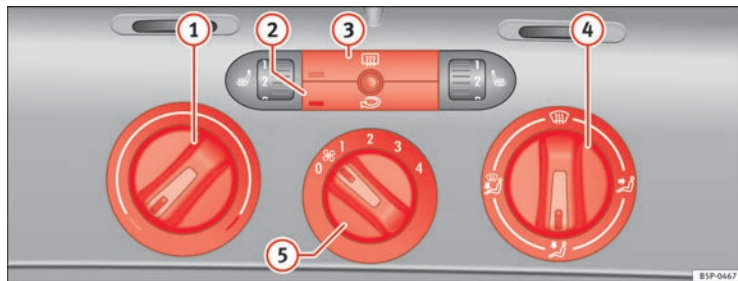

Fig. 127 On the dash panel there are the heating controls
- Using the controls ⇒ fig. 127 ① and ④ and the control ⑤ you can set the temperature, air distribution and the turbine speed.
- To switch a function on or off, press the appropriate button ② or ③. When the function is activated, the display window in the lower left of the button is lit.